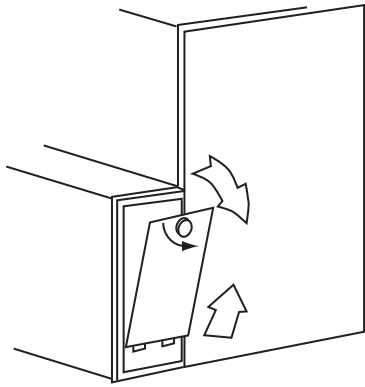
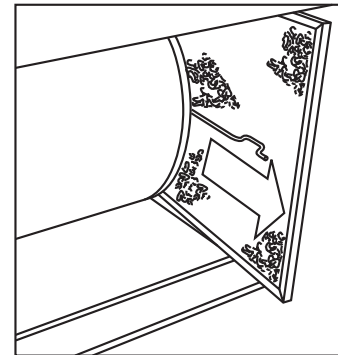

Fig. 23 - Removal of Filter Cabinet Door from Side Blower Cabinet
Fig. 28 - Slide Filter Out of Furnace (Side Inlet)
- b. Gently remove air filter and carefully turn the dirty side up (if dirty) to avoid spilling dirt from the filter (See Fig. 28).
• AIR FILTER(S) LOCATED IN FILTER CABINET:
- a. Remove filter cabinet door. (See Fig. 23 and 24.)